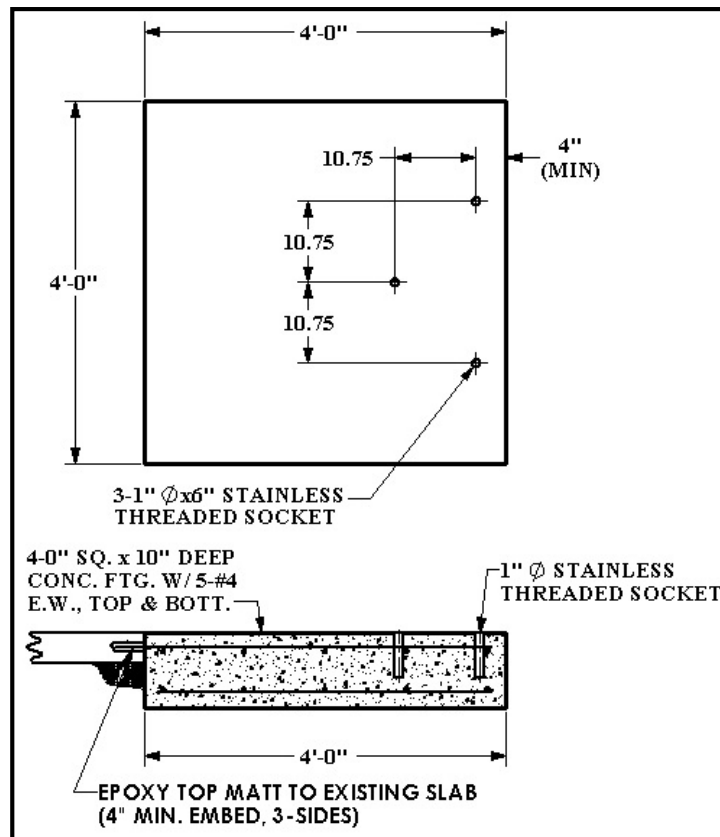

FIGURE 1
Before installing the anchors, it is necessary to determine where you want to place the lift on your deck. You will want to locate the lift as close to the outside wall of your pool/spa as possible to ensure that the seat arm clears your spa/pool wall. As shown in figure 1 below, the lift must be a minimum 4" from the front anchor holes to the pool/spa wall. Also, you will want to allow enough room for the seat arm to swing around away from the pool/spa. Refer to the specifications for lift dimensions.
- 1.) The lift is shipped with 4" anchors. If you are installing the anchors and have not received the lift, use the dimensions from figure 1 below to set the anchor locations. Make a mark on the deck with a marker or chalk at each anchor location. If you have the lift and have not installed the anchors, position the lift at the desired location and mark the concrete at each anchor location.